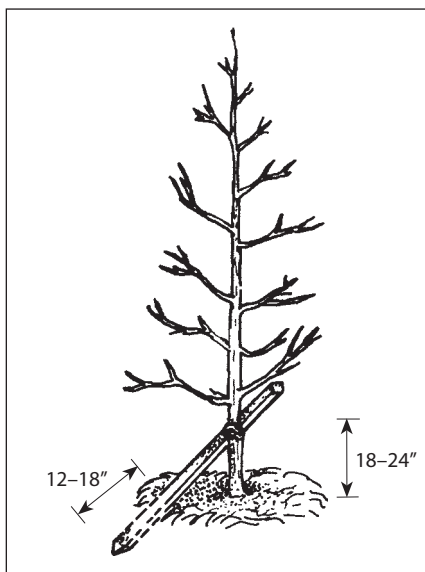
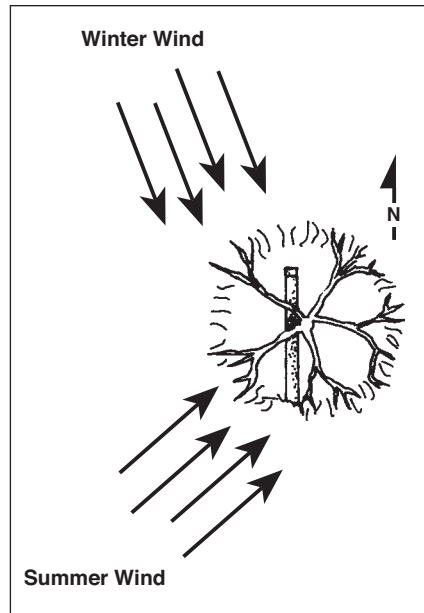
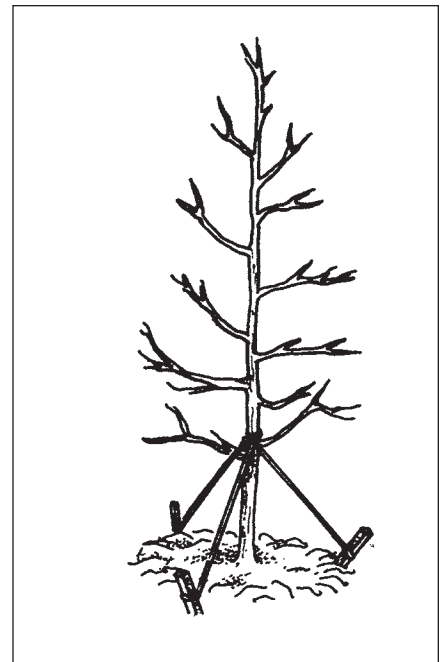

Figure 1. When staking, support the tree 18 to 24 inches above the ground.
Figure 2. When staking a tree, place the stake so the prevailing winds move the tree away from the stake.
Figure 3. The three-way guying system should be used on larger deciduous and upright evergreens trees.
Most deciduous trees larger than 5 feet are candidates for staking when planted on an exposed site. The larger the tree, the more important it is to provide extra support. Usually, a deciduous tree up to 1½ to 1¾ inches in caliper (10 to 12 feet in height) can be staked using the method illustrated in Figure 1. A tree larger than this will need to be supported by a three-way guying system (Figure 3).
immediately after planting with a 2 × 2-inch × 5-foot stake as follows: (1) position the stake along the west side of the tree so the prevailing winds will move the tree away from the stake (Figure 2.); (2) drive the stake (pointed to the north) 12 to 18 inches into undisturbed soil outside the planting pit at a 45-degree angle, crossing and supporting the trunk 18 to 24 inches above the soil surface (Figure 1) Pointing the sharpened end toward the north causes the prevailing summer winds to drive the stake into the ground; (3) secure the trunk to the stake using commercial ties or a wire tie protected by a rubber/vinyl length of hose or pad in a loose figure eight shape so the bark will not be injured and the trunk will not rest against the stake.